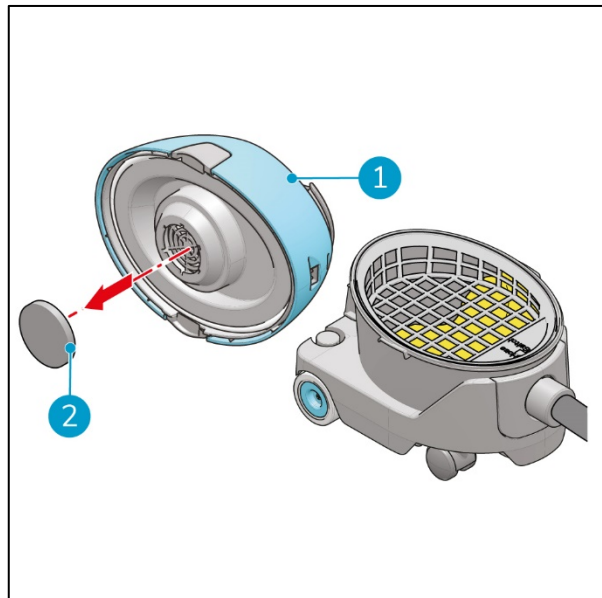

Figure 19
4. Place the head on on a level surface (Figure 19, pos 1).
5. Remove the old motor filter (Figure 19, pos 2).
6. Place the new motor filter (Figure 19, pos 2).